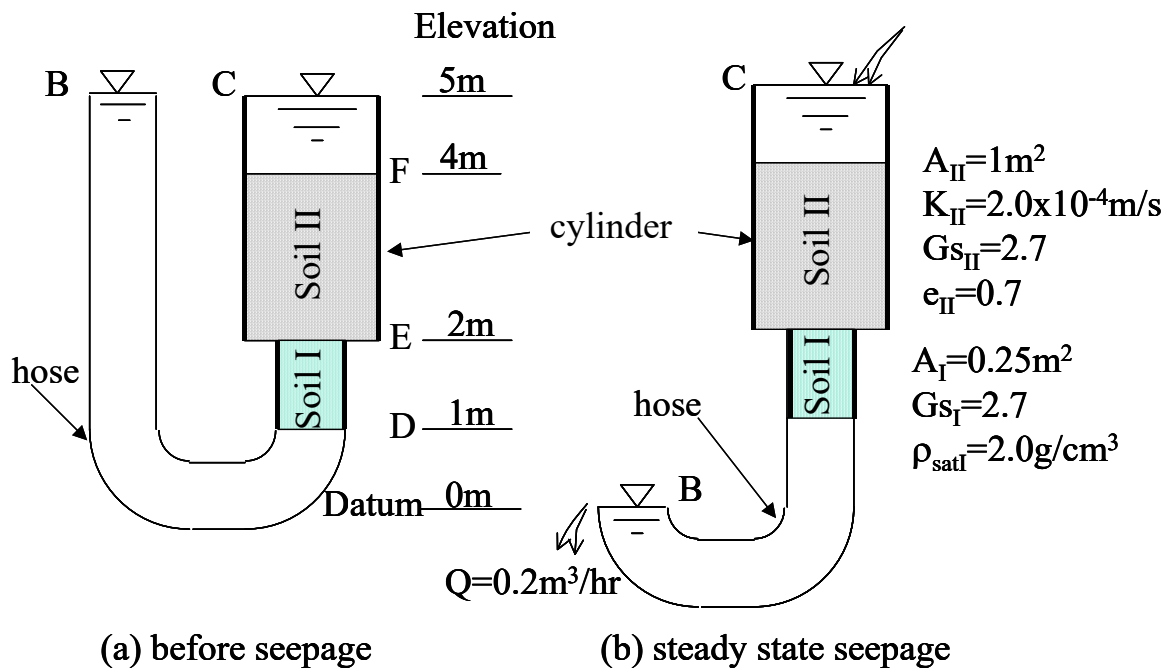

Fig.1
Two uniform saturated soils with different heights and cross sectional areas are accommodated in a cylinder at which bottom a flexible hose with large diameter is connected. At first, the elevation of outlet of the hose (B) is the same as the top end of the cylinder (C) and all portion in the cylinder and hose are filled with water as shown in Fig.1(a). Known conditions of the soils (for Soil I: height, cross sectional area (A_I), specific gravity (G_{sI}) and saturated density (ρ_{satI}); for Soil II: height, cross sectional area(A_{II}), hydraulic conductivity (K_{II}) and specific gravity (G_{sII}) and void ratio (e_{II})) are given in the figure. Assuming that the volume change of soils due to the change of hydraulic conditions is negligible and the earth gravity $g=10\text{m/s}^2$, answer the following question.
- (1) Explain the definition of void ratio (e), saturated density (ρ_{sat}) porosity (n) and hydraulic conductivity (K). You may define the necessary parameters.
- (2) Obtain the porosity of Soil I (n_I) and effective unit weight of Soil II (γ'_{II}).
- (3) Obtain the vertical total and effective stresses at bottom of Soil I (D) and II (E). Assume that the inner wall of the hollow cylinder is smooth and the stress varies one dimensionally in the vertical direction in each soil.
By lowering the outlet of the hose to the elevation of 0m, steady state seepage test is conducted as shown in Fig.1(b) and the discharge rate of $Q=0.2\text{m}^3/\text{hr}$ is observed.